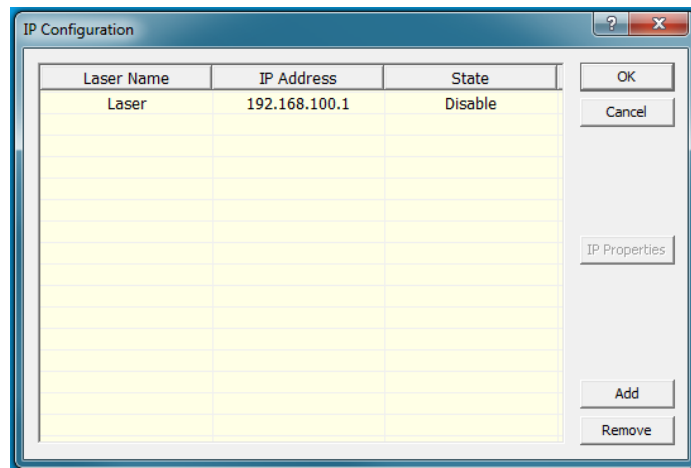

Figure 9-2 LaserNet Network Configuration
4. The dialog window will be as shown in Figure 9-2